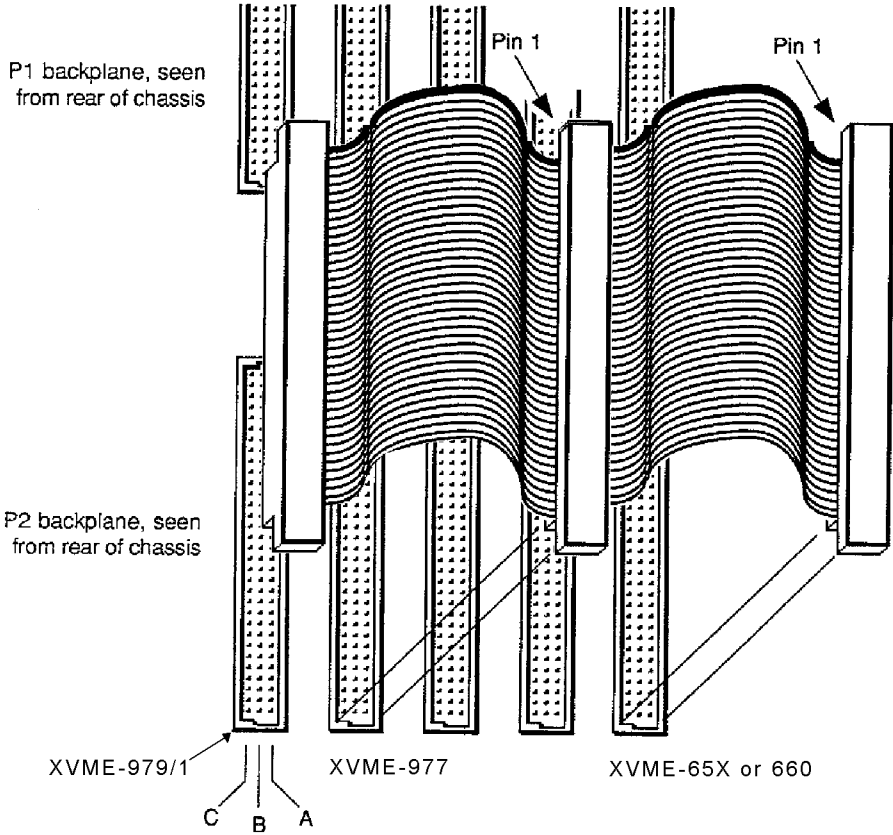

Figure 2-1. XVME-979/1 Installation (CD-ROM version only)
Figure 2-1 depicts installation of the XVME-979 board.
2. Connect the jumper cable from the CPU slot to the XVME-977 slot on the rear of the P2 backplane, and then to the 979/1 slot as shown in Figure 2-1. This will bring the EIDE and floppy signals from the CPU board to the XVME-977 (hard drive/floppy drive) and the 979/1 (CD-ROM drive). The hard drive is the “master” and the CD-ROM drive is the “slave”.
2. Connect the jumper cable from the CPU slot to the XVME-979 slot on the rear of the P2 backplane, as shown in Figure 2-1. This will bring the EIDE and floppy signals over from the CPU board to the XVME-979/2. The hard drive is the “master” and the CD-ROM drive is the “slave”.